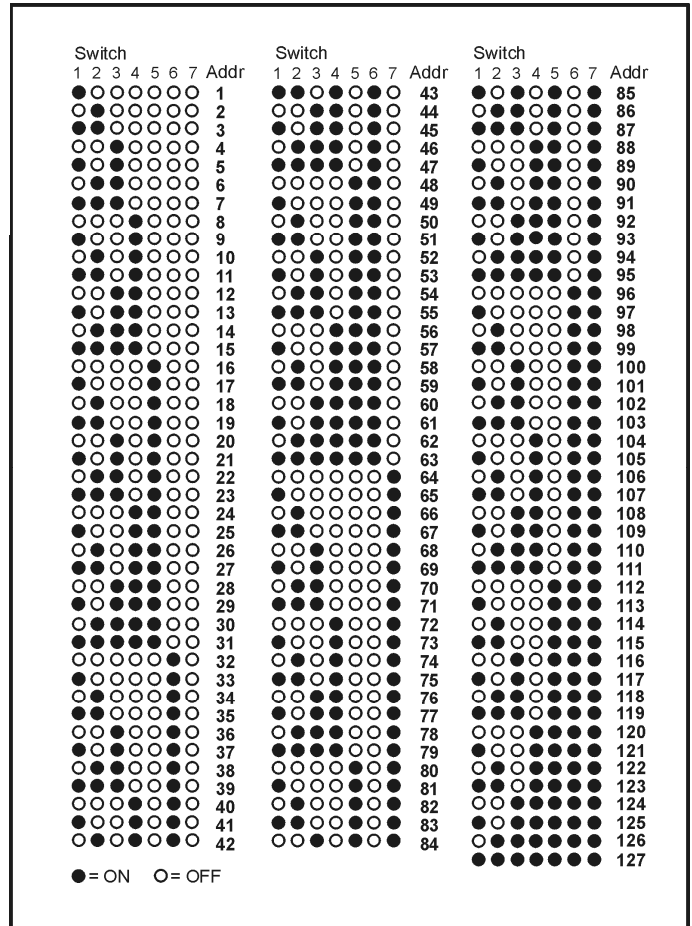

Fig 10
- ❑ Refer to the Address Chart (Fig 10) on page 4 for a quick reference on addresses.